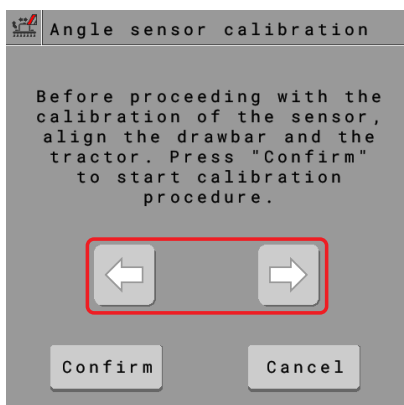

Fig. 62
- Follow the displayed instructions and press **Confirm** (Fig. 62).